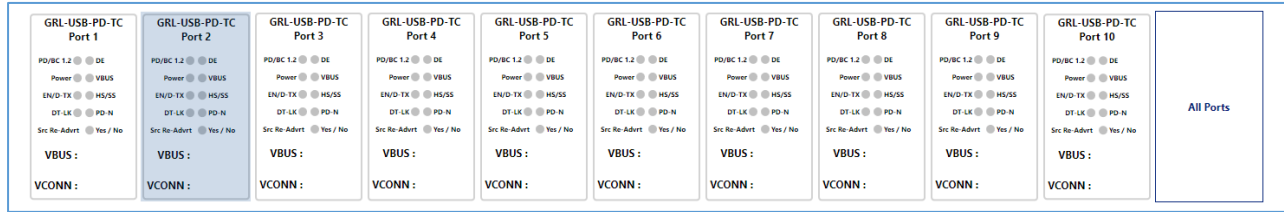

FIGURE 4.2: SELECT TESTER CARD PORT FOR VERIFICATION
2. Select the tester card port(s) that needs to be verified. See example in Figure 4.2 below.